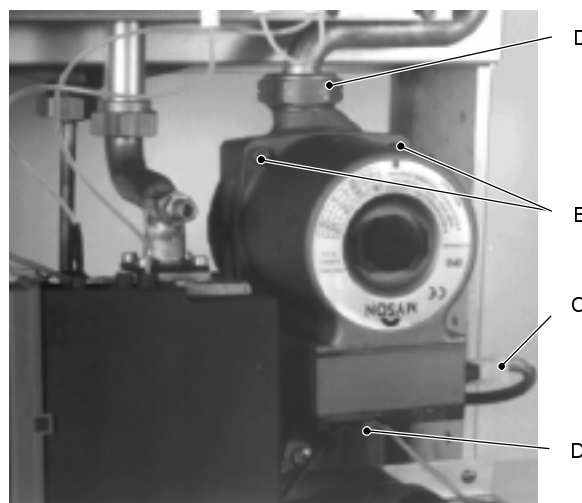

fig. 22
If the clearance to the right side of the boiler is restricted, the removal of the pump can be easily achieved by first removing the head by unscrewing the four Allen keys screws (B in fig. 22, the two on the upper side indicated).
- 3 Disconnect the connector C (fig. 22).